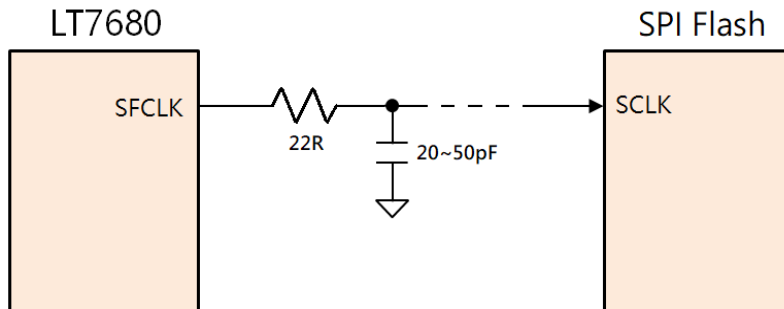

Figure 10: LT768 to SPI Flash CLK Adding RC
- Add RC circuit on LT7680 to SPI Flash CLK. (Figure 10).